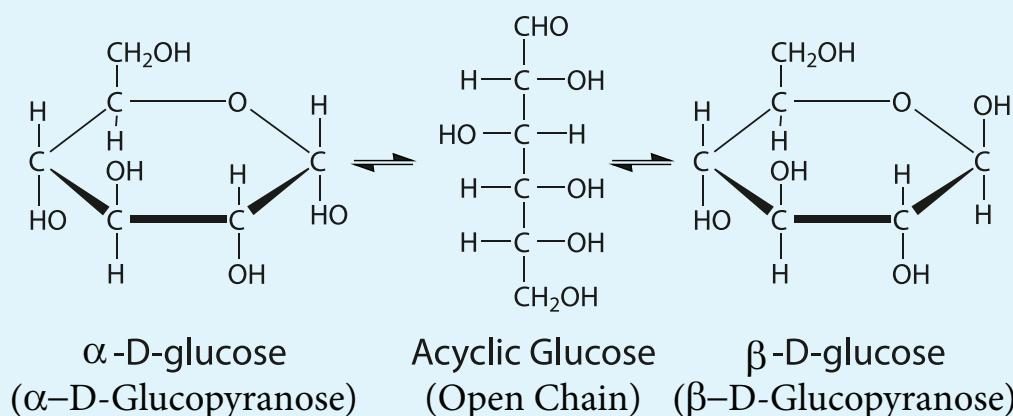

Figure 14.5 Cyclic structures of glucose
In addition, glucose is found to crystallise in two different forms depending upon the crystallisation conditions with different melting points (419 and 423 K). In order to explain these it was proposed that one of the hydroxyl group reacts with the aldehyde group to form a cyclic structure (hemiacetal form) as shown in figure 14.5. This also results in the conversion of the achiral aldehyde carbon into a chiral one leading to the possibility of two isomers. These two isomers differ only in the configuration of C1 carbon. These isomers are called **anomers**. The two anomeric forms of glucose are called α and β -forms. This cyclic structure of glucose is similar to pyran, a cyclic compound with 5 carbon and one oxygen atom, and hence is called pyranose form. The specific rotation of pure α - and β -(D) glucose are 112° & 18.7° respectively. However, when a pure form of any one of these sugars is dissolved in